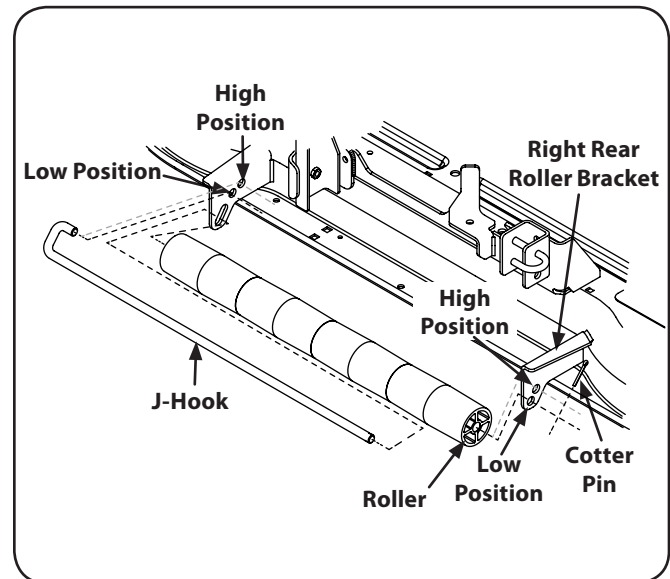

Figure 6-7
1. Remove the cotter pin from the right end of the J-hook. See Figure 6-7.
2. Slide the J-hook to the left and remove the roller as the shaft is fully withdrawn from the left rear roller bracket. See Figure 6-7.